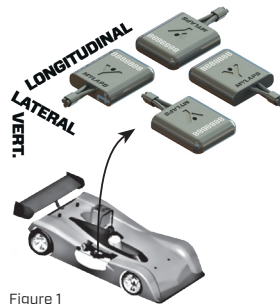

Figure 1
- ▶ Mount the transponder horizontally (see figure 1). All other orientations will result in a weaker signal